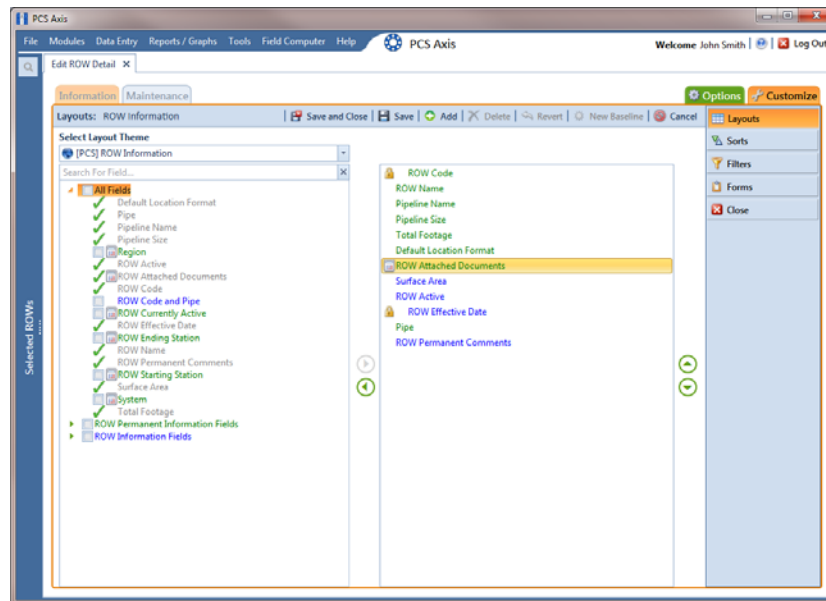

Figure 4-24. Layouts
- 5 Click the **Customize** tab  to view the *Layouts* page (Figure 4-24, page 148).
- 8 Add the field *ROW Attached Documents* in the layout theme. Double-click **ROW Attached Documents** in the left pane of the *Layouts* page to move it to the right pane. Add other fields as required. The layout theme includes all fields listed in the right pane (Figure 4-24).